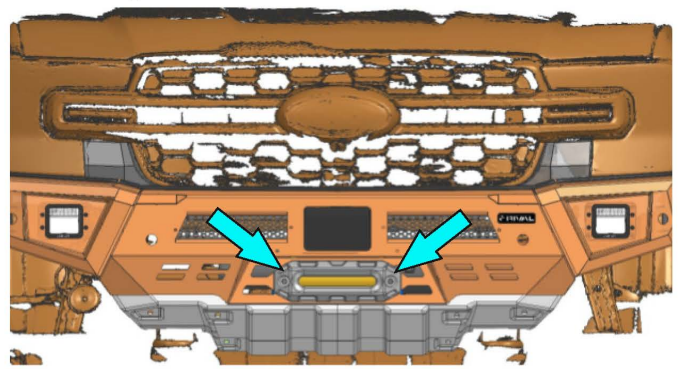

Fig.50
50. Install the fairlead on the bumper, in case if you installed the winch, fasteners supplied with fairlead (fig. 50).